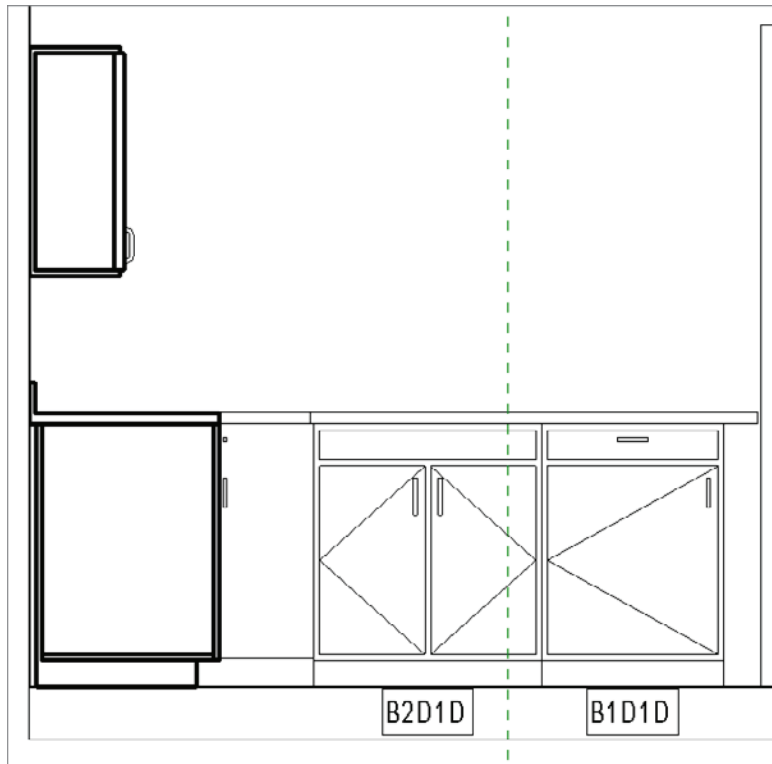

FIGURE 11.88 Changing the scale and adding a second tag to the base cabinets
1. In the View Control toolbar, change the scale from 1/8" = 1'-0" (1:100) to 1/4" = 1'-0" (1:50), as shown in Figure 11.88.
4. Call it B1D1D (see Figure 11.88).